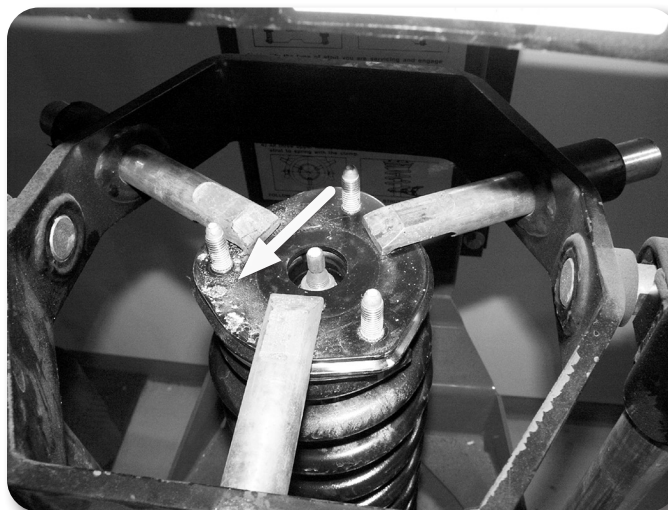

Figure 45
76. Using an appropriate strut compressor, compress the coil spring and remove the upper strut nut **Figure 45**. Remove the strut, strut cap and upper coil seat from the coil spring.